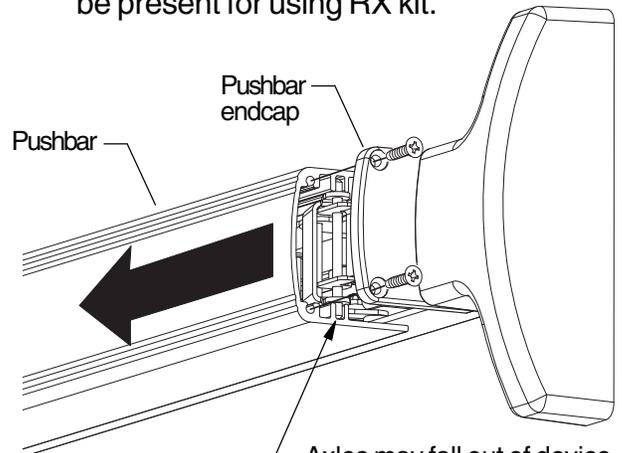

Figure 2-1
- 2 Remove pushbar endcap and slide pushbar off device (Figure 2-1). See Figure 2-2 for features that must be present for using RX kit.